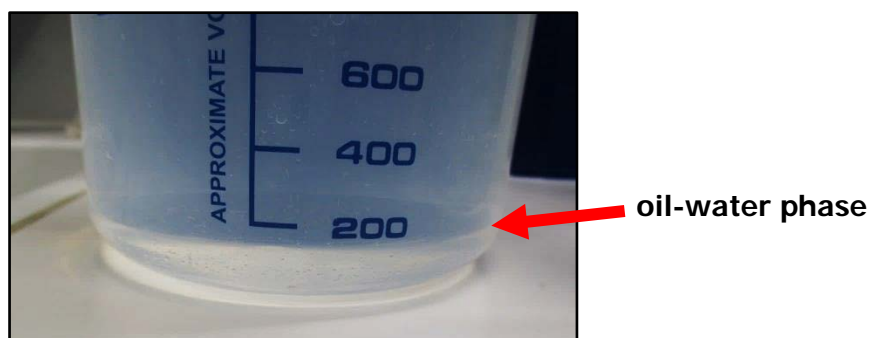

Figure 13: oil-water phase
2. Use empty pump to remove water and all bubbles in the cooling medium (water is located at the ground see Figure 13)